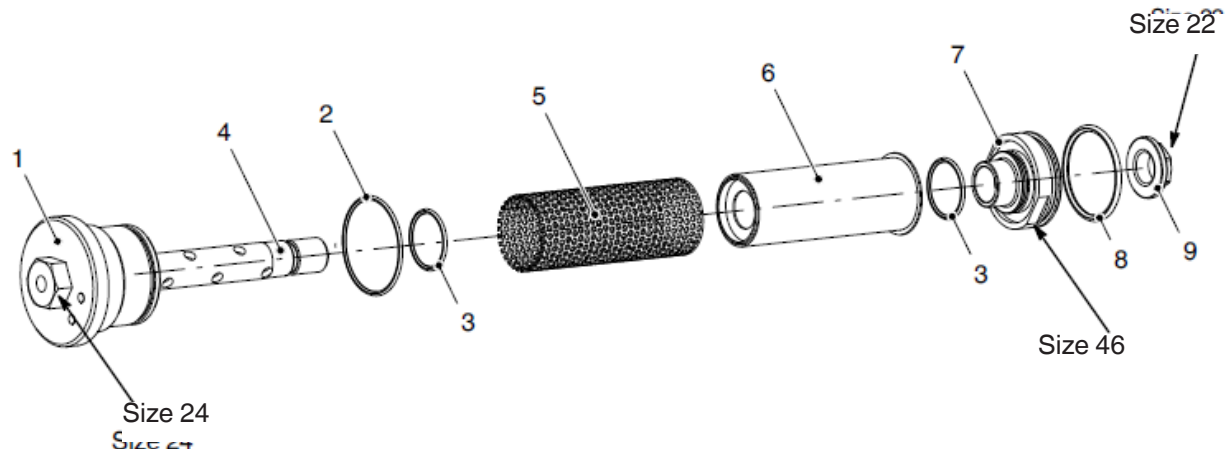

Figure 5-13 Exploded view of filter cartridge
3. Put together the individual pieces (Figure 5-13).
4. Screw the filter nut (7) onto the filter shaft thread (4) by hand. Use caution to prevent the filter screen (6) from jamming.
7. Screw on the locknut (9) and tighten with a torque wrench (size 22).